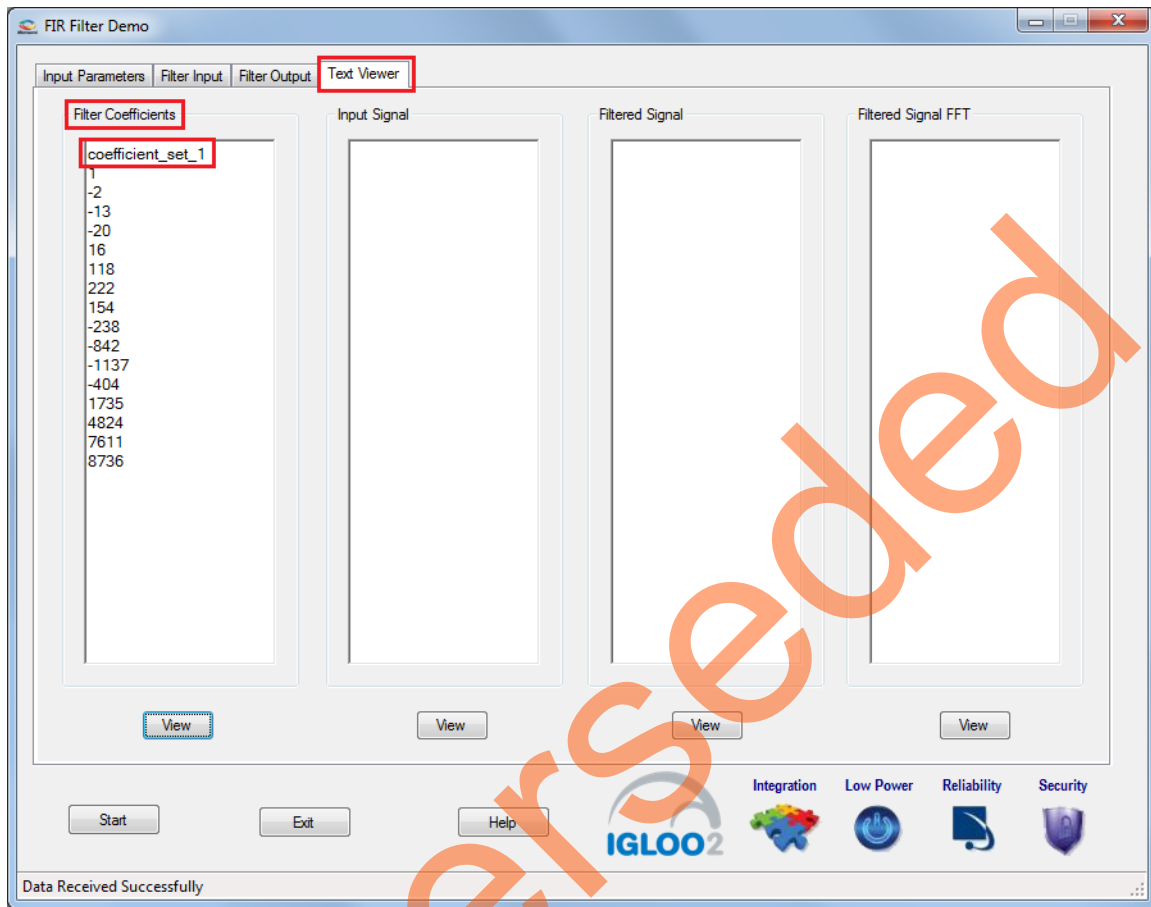

Figure 20 • Text Viewer: Filter Coefficient Values
11. The values can be observed as shown in Figure 20.